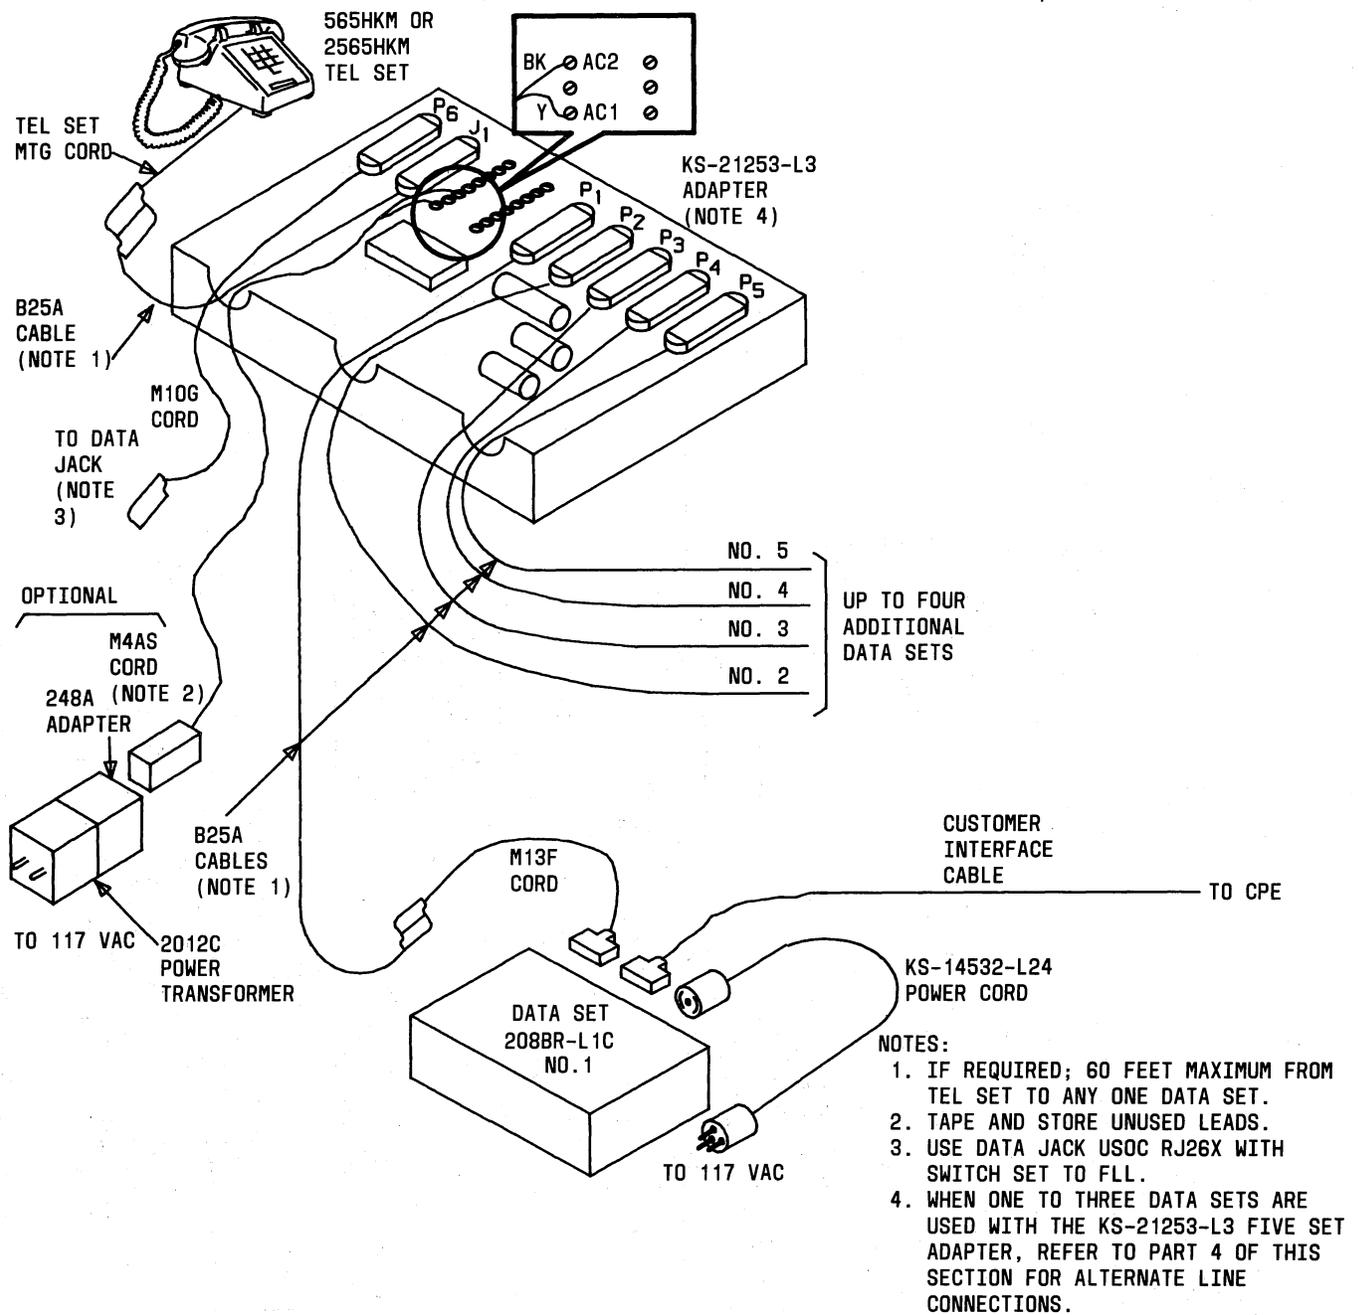

Fig. 12—One to Five Data Sets With Shared Telephone Set—Connection Diagram
- M10G cord (1)
- KS-21253-L3 adapter (1)
**4.09 One to Five Data Sets With Shared Telephone Set:** The connection diagram for this arrangement is Fig. 12.